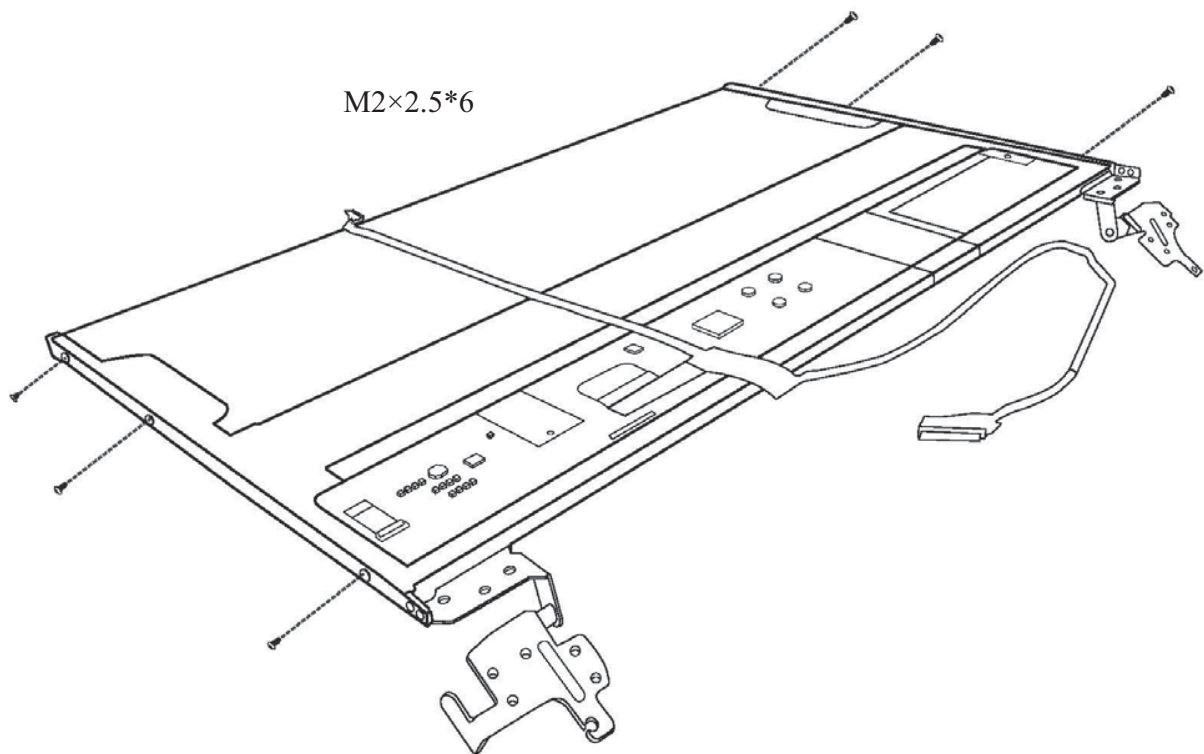

Figure 4-37 Installing the LCD hinges
Install the LCD panel according to the following procedures and Figure 4-37.
2. Align the LCD hinges with the LCD panel and secure them with six M2x2.5 screws, according to the following procedures indicated in Figure 4-37.